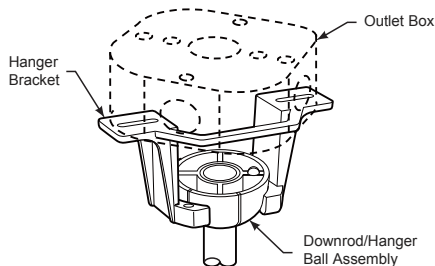

Figure 4
- ☐ 4. Thread downrod into the downrod support on top of the motor. Install the clevis pin by aligning the holes in the downrod support with holes in the downrod. Secure clevis pin with hairpin clip. Tighten the two set screws with locking nuts in the downrod support. (Figure 4)
2. Carefully lift the fan and seat the downrod/hanger ball assembly onto the hanger bracket that was just attached to the outlet box. Be sure the groove in the ball is lined up with tab on the hanger bracket. (Figure 4) This fan is intended for standard and angled mounting options only. Closemount and flushmount options are not available. For angled ceilings, note the angle can be no more than 19°.